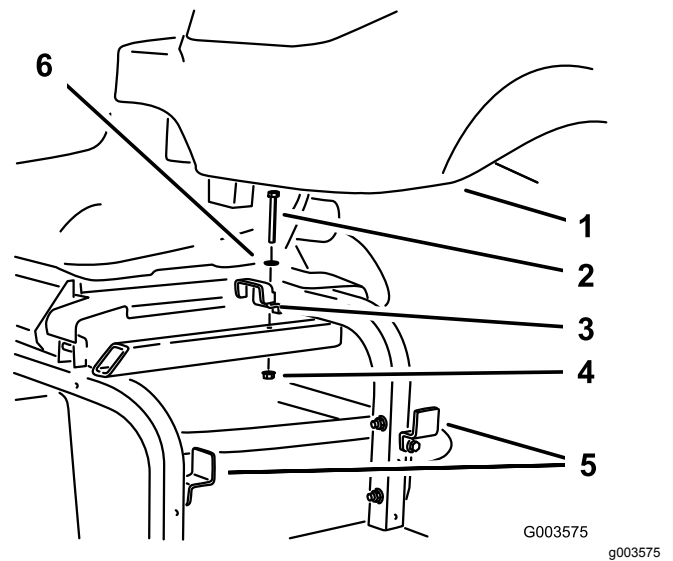

Figure 24
2. Install the hydraulic tank to the frame and secure it with the 3 brackets previously removed and loosened (Figure 24).